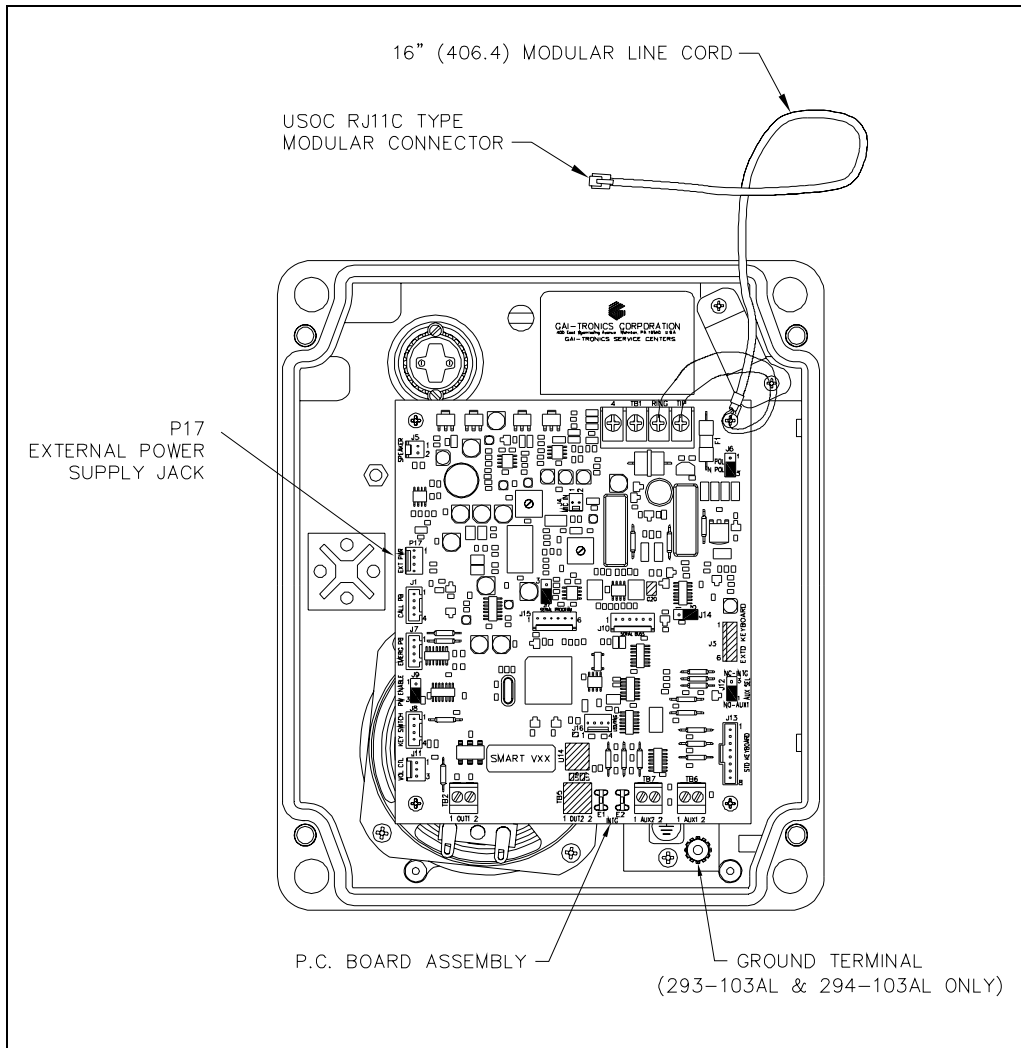

Figure 1. PCBA Connections for Models 293-103, 293-103AL, and 294-103AL
1. Align the holes in the four corners of the new PCBA with the standoffs in the telephone, maintaining proper orientation. See Figure 1.